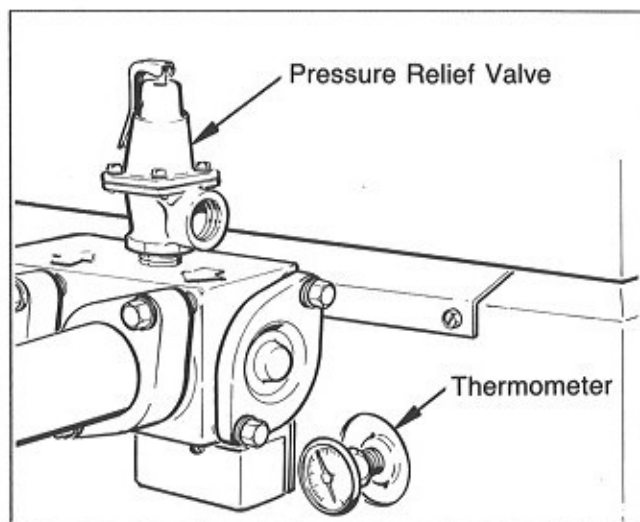

Figure 9. Thermometer and Pressure Relief Valve Location
A pressure relief valve is not furnished with the Series 2 heater except in Canada. Local plumbing codes may require it. To install a pressure relief valve, remove the 3/4" brass plug on top of the header and screw in the valve (see Fig. 9). The setting of the valve should be at or below the lowest working pressure of any component in the filter system.
2. With the filter pump off, remove the drain valve. The valve is located on the right side of the heater. Replace the drain valve with a thermometer (see Fig. 9).